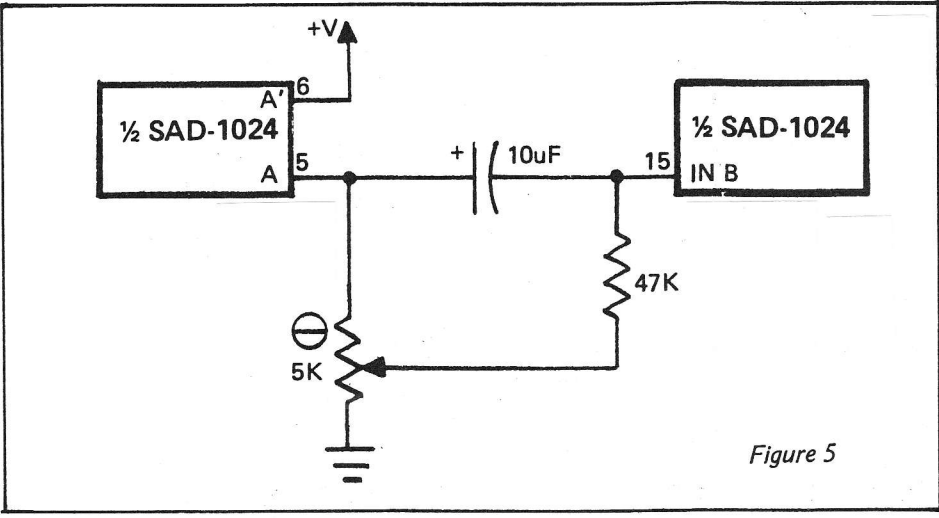

Figure 5
5. The gain of the stage depends directly upon the load resistance, and in general you can expect it to be greater than unity. (a 10K resistance, not a practical load by the way, gives a gain of 1.2). Since there is a gain in general, if you are planning upon serial operation (tying two stages together in series), you must attenuate the output of the first stage somewhat, to attain the input requirements, (mentioned above), for the next stage. Figure 5 (located on page 16) fills the bill.